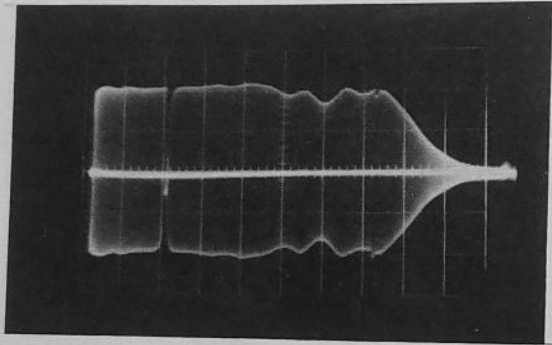

Figure 24. Input at Junction of 2R60, 2R62, and 2R63. Output at Junction of 2R134, 2R135, and 2R136. Marker on 5 mc.
19. Adjust 2L14 for the response shown in Figure 24.